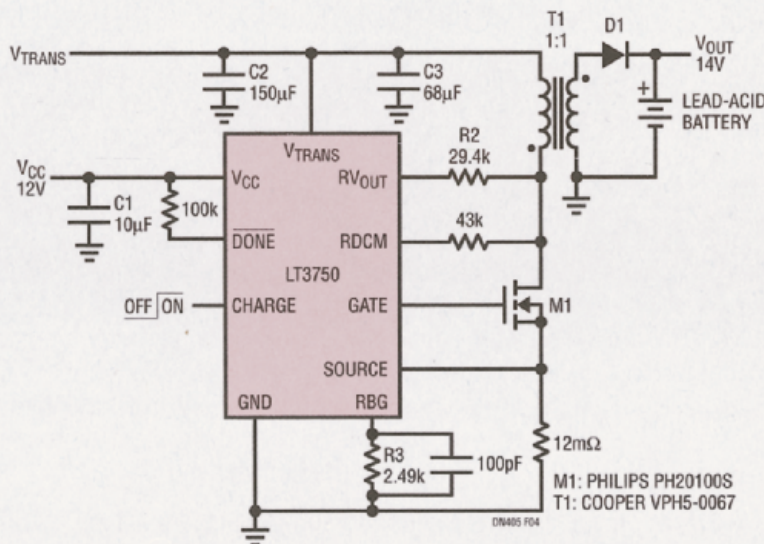

Figure 4. LT3750 Battery Charger with Microcontroller Interface for Variable Current Charging
Another type of system that needs a controlled current source is a fast charger for a lead-acid battery. A fast charger for a lead-acid battery differs from the capacitor charging applications in that it needs to charge at high current, but at a much lower voltage. Figure 4 shows a circuit that charges at 6A until the lead-acid battery potential reaches the 14V float voltage. Again, the circuit is remarkably similar to the previous two designs—the transformer turns ratio is now 1:1 and the R2 set resistor has been changed to set the target float voltage to 14V. Other float voltages may be accommodated by simply changing R2 to the appropriate value.
**Figure 4** A digital oscilloscope captures the waveforms of GP0, GP1, and GP2 (upper to lower traces, respectively), which show a transition in the LED pattern from Case 7 to Case 8 (lines 62 and 63 in Listing led121.c.pdf).
The tachometer indicates rotary speed as high as 120 cycles/sec. The accompanying software listings available at [www.edn.com/061215di1](http://www.edn.com/061215di1) include files in C language (led12.c.pdf) and in assembly language (led12.asm.pdf). The source zip file contains a complete MPLab project. **Figure 4** shows the waveforms, which a digital oscilloscope captured at ports GP0, GP1, and GP2. **EDN**